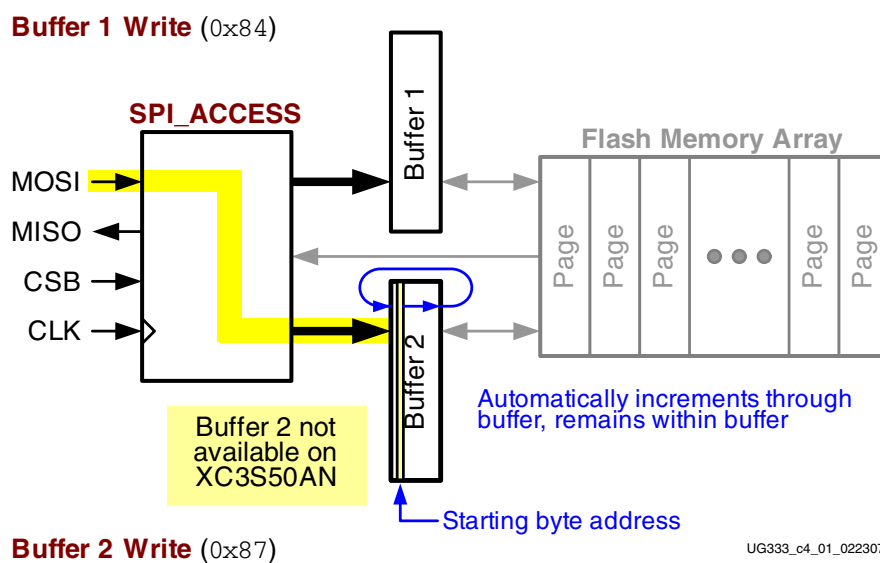

Figure 4-1: Buffer Write Command
- ♦ The starting byte location can be anywhere within the selected SRAM page buffer, as shown in Figure 4-1.
- ♦ While CSB is Low, present new data on the MOSI pin on every subsequent falling CLK edge. The ISF memory automatically increments the implied address counter through the SRAM page buffer, as highlighted in Figure 4-1.
This operation combines the Buffer Write (Figure 4-1) and Buffer to Page Program with Built-in Erase (Figure 4-2) operations. The FPGA application must specify a full 24-bit address, including both the Page Address and the starting Byte Address within the SRAM page buffer.